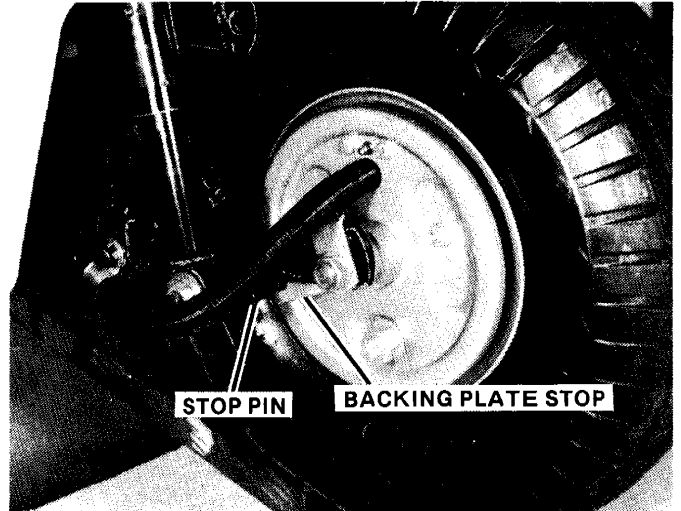

FIGURE 9
**SAFETY WARNING:** Make sure the backing plate stop is secured over the stop pin when reinstalling the backing plate. This will prevent the backing plate from turning, which could result in brake hose damage and complete brake failure. Refer to Figure 9.